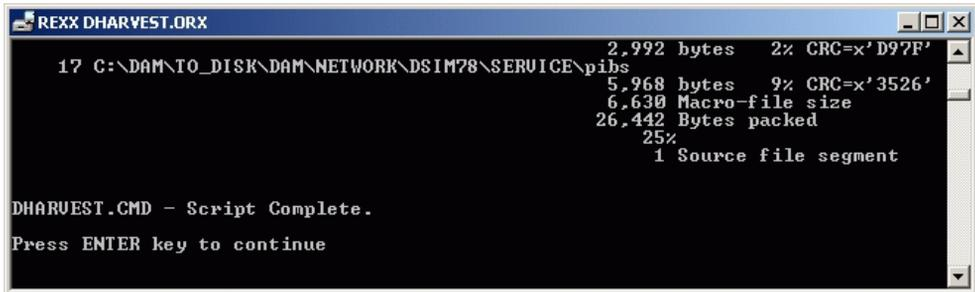

Figure 51 REXX DHARVEST.ORX Window (Process Complete)
8. Type the director name (obtained in step 1), then press the **Enter** key to initiate the data collection procedure. Messages appear showing files transferring from the ESCON server hard drive to diskette. The process is complete when the *Enter* prompt appears (Figure 51).